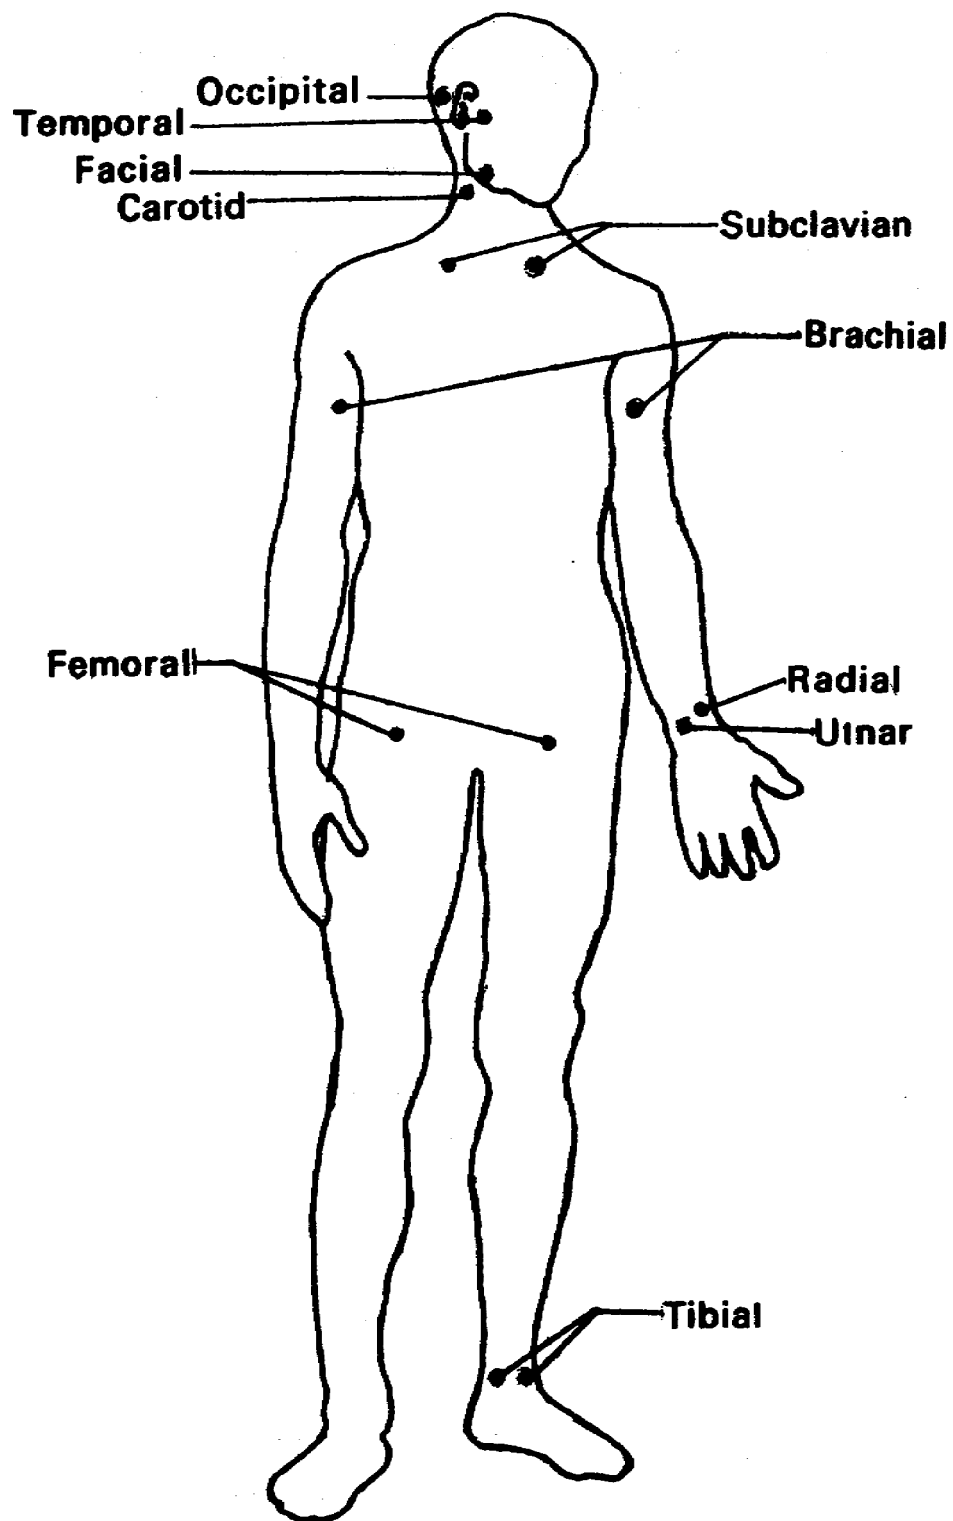

Figure 17. Pressure points for control of bleeding.
- (1) Arterial bleeding. If an artery is cut or severed, the blood appears bright red in color and spurts out with each heartbeat. This type of Hemorrhage requires immediate attention regardless of how slight it may appear. Fortunately, arteries are pretty well protected by surrounding flesh and are near the skin's surface at only a few points on the body.
- (2) Capillary bleeding. An example of capillary bleeding would be a superficial cut such as a nick you might get in shaving. The blood is also dark red in color, and it is characterized as a slow oozing.
- (3) Venous bleeding. In venous bleeding, the blood appears dark red and does not flow in spurts, but is continuous. Many of the veins are near the surface of the skin, and thus are often involved in shop injuries, such as lacerations, sharp cuts, and punctures.
- (4) Internal bleeding. Less obvious than the various kinds of external bleeding is the internal hemorrhage, which occurs within the body, such as in a body cavity or organ. Any indication of blood being coughed up, vomited, or excreted suggests the occurrence of internal hemorrhage, and the case should be turned over to a physician. Always regard any sign of internal bleeding as a serious matter calling for professional diagnosis.
c. There are Various Ways of Treating Severe Bleeding. Pressure directly applied against the wound will stop or slow the bleeding and allow blood to clot. About 5 to 10 minutes will usually suffice. If a sterile gauze pad or compress is handy, press it against the wound. In an emergency, any clean cloth will do. The main thing to do is stop or slow the bleeding. Another way to control bleeding is to elevate the injured part. This lessens blood pressure at the wound site and aids the flow of venous blood from the area. Thus, arterial or venous bleeding may be reduced or slowed by this method. Another technique is using certain pressure points (fig. 17) to control arterial bleeding for a short time until more suitable control can be accomplished by the medical profession. The pressure points are those places where major arteries lie near the skin surface. Pressure applied at these points will slow or stop the flow of blood to certain areas of the body. Manual pressure followed by the pressure of a bandage usually will keep the bleeding under control. The standard way of manually applying pressure on a pressure point is with the thumb, because it is the strongest digit. But first, the tip of the forefinger, being sensitive, pinpoints the precise location of the pressure point by detecting pulse. Now, with the help of figure 17, let's identify and describe the pressure points.
- (1) Carotid. Passing up either side of the neck, the common carotid artery affords a pressure point situated in the lower part of the neck. The carotid arteries are main blood vessels that feed blood to the brain and to lingual, facial, temporal, and occipital branch arteries. Pressure on a carotid artery can stop all blood flow to its side of the head. Since such stoppage could harm the brain, a first aider should use this pressure point only in the most severe cases of bleeding in the head or in the neck above this pressure point.
- (2) Facial and occipital. The facial artery and the occipital artery in either left or right half of the head are branches of the carotid. Pressure point for the facial is in a small hollow at the side of the lower jawbone. If the victim clenches his jaw, you can find it easily by feeling its pulse just in front of the jaw-clenching muscle. Pressing this point stems bleeding on the side of the face that is concerned. For bleeding near the middle of the face, you may have to press both the left and the right facial pressure points simultaneously. The pressure point associated with the occipital artery is sometimes hard to find, but it is about midway between